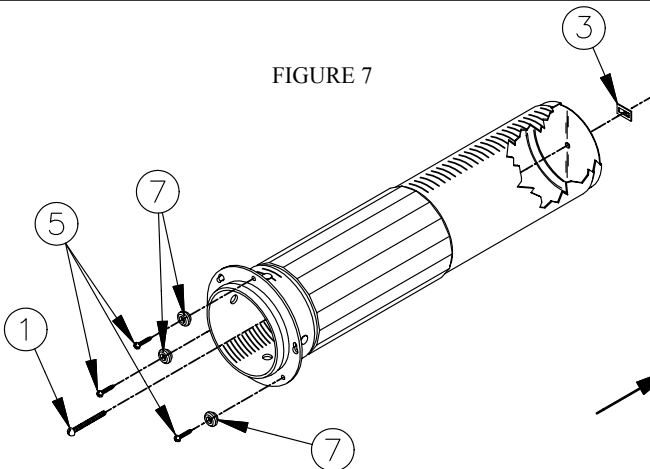

FIGURE 7
1. Remove hardware from packet. Hardware kit consists of 1 - 10-32x1-3/4 slotted round head screw(1), 3 - 8-18x3/4 phillip head screw(2), 1 - 10-32 speed clip(3), and 3 - studs(7) (See Figure 7).